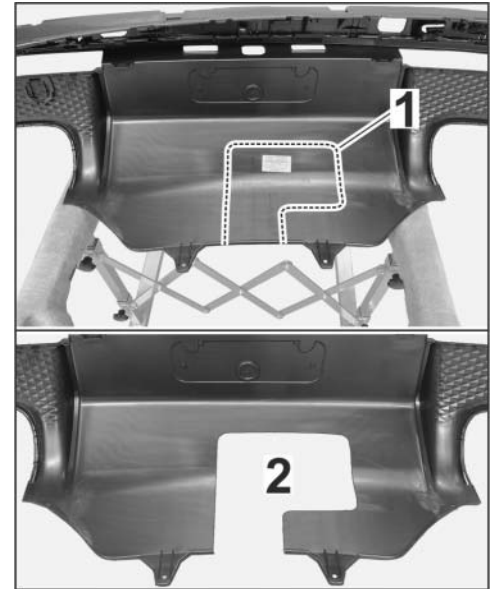

Figure 22
- 4.1.2 Mark the cut-out for the trailer hitch along the impression ( $\Rightarrow$  *Figure 22 -1-*) on the inside of the rear panel so that it is clearly visible using a pen.
- 4.1.3 Carefully make the cut-out using a drill and saw along the marking ( $\Rightarrow$  *Figure 22*).